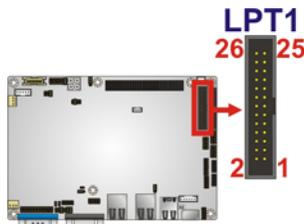

Figure 3-12: Parallel Port Connector Location
- CN Location:** See **Figure 3-12**